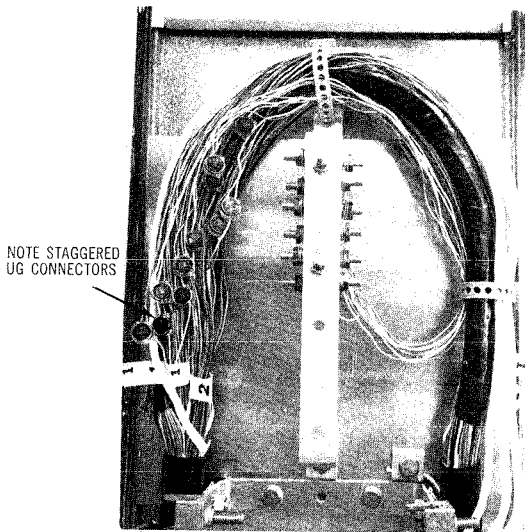

Fig. 13—First Terminal Block in place
(6) Coil the unassigned Terminal Block wire lead assemblies in the vacant space behind the first terminal block.
(7) Fig. 13 shows the first terminal block in place with all terminal block wire lead assemblies connected to the cable conductors.